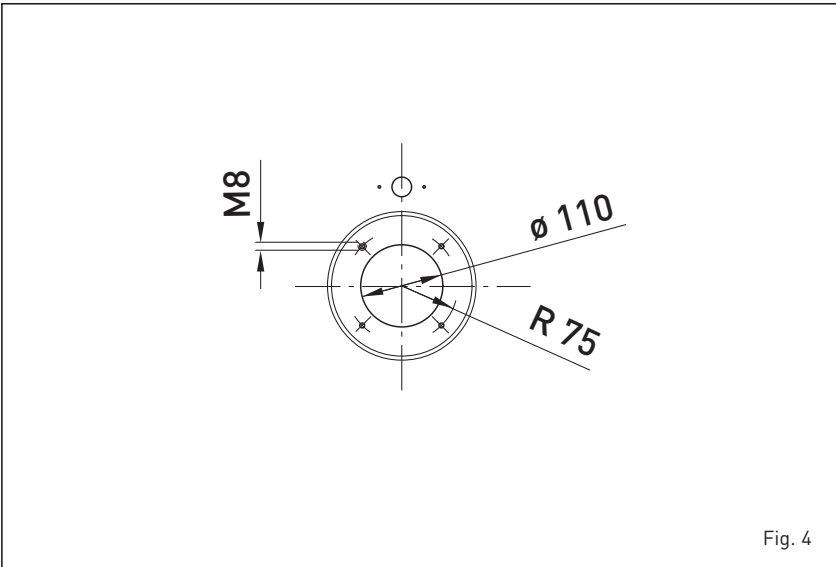

Fig. 4
1.7.2 Burners assembly (fig. 4)
The boiler door details is shown in figure 4 for burner mounting. The burners must be regulated such that the CO₂ value is that indicated in point 1.3, with a tolerance of ± 5%.
2.4.2 Smoke exhaust with ø 80/125 coaxial flue (fig. 4/a)
Our boilers **RONDÒ -ESTELLE ErP** are set to be connected to ø 80/125 stainless steel coaxial flues that can be adjusted to the most suitable direction for room requirements (fig. 4/a).